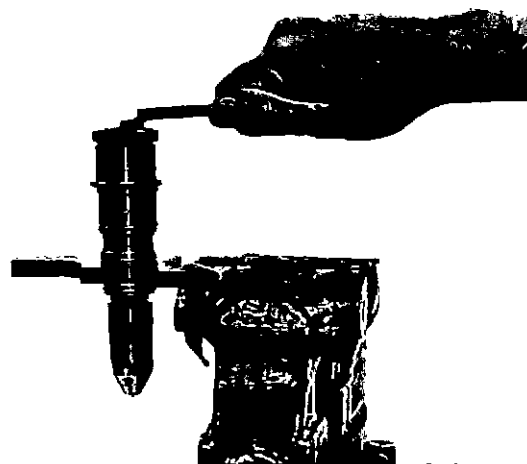

Fig. 2-2, (F60304). Loosen the top stop adjusting screw
- d. Use the top stop adjusting wrench, Part No. 3375165, to loosen the top stop adjusting screw, Fig. 2-2.